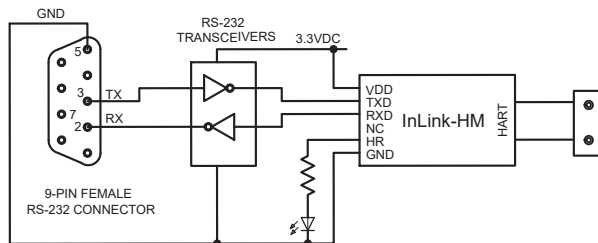

Figure 4. Diagram of InLink-HM placed on the InLink Evaluation board
7. LED to indicate when a HART reply was received (see Figure 4).
Figure 4 shows a diagram of the InLink-HM connected to the InLink Evaluation board. Notice the **HR** output Pin is connected to an LED. The HR output pin indicates when InLink-HM receives a HART reply. This LED will be helpful with software debugging.